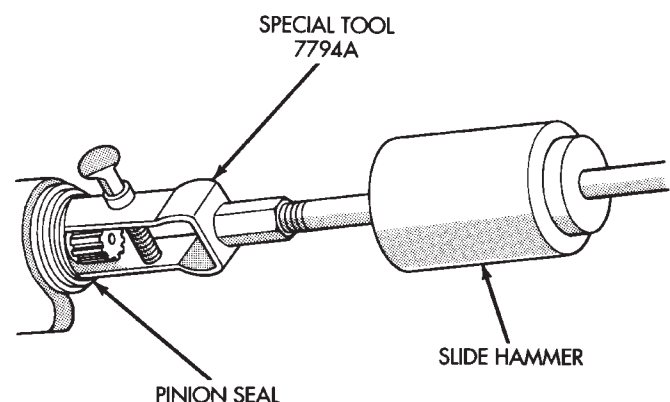

Fig. 11 Seal Removal
- (10) Use Remover 7794-A and slide hammer to remove the pinion shaft seal (Fig. 11).